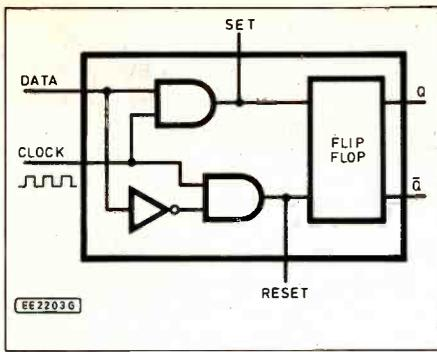

Fig. 12.7. The D type flip-flop
They do however, form part of all other available MSI flip-flop circuits; as in the D-type flip-flop, for example, as shown in Fig. 12.7. The D-type flip-flop, as indicated by its symbol in Fig. 12.8a, has a data input (D), a clock input (CLK), a set direct input (S), a reset direct input (R), and two outputs (Q and  $\bar{Q}$ ). Operation of this device is very simple: the logic level at the D input is transferred to the Q output after receipt of a pulse at the CLK input. The Q output can be set directly (set to Q=1) by applying a pulse to S or reset directly (reset to Q=0) by applying a pulse to R. The  $\bar{Q}$  output is always in the opposite state to (the logic complement of) Q.